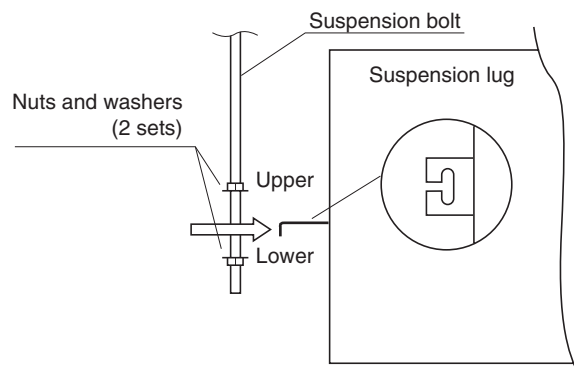

Fig. 1-71
- (3) Thread the 2 hexagonal nuts and washers (field supply) onto the 4 suspension bolts as shown in Figs. 1-71 and 1-72. Use 2 sets of nuts and washers (upper and lower), so that the unit will not fall off the suspension lugs.